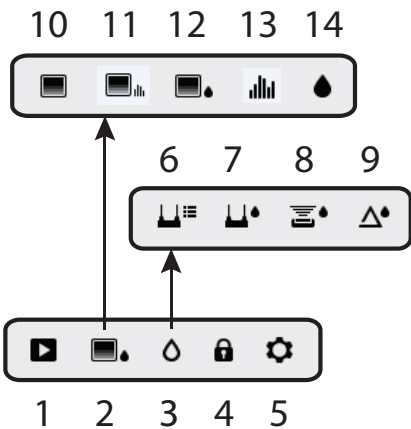

Fig. 4-2 Menu Icons
The Menu structure is outlined below and covered thoroughly in subsequent sections of this User Guide. The center Select button and the four (4) Navigation buttons are used to access and program the modes of operation available from the menus. Refer to Fig. 4-2.
Icons 1 through 5 in Fig. 4-2 make up the **Main Menu**. Press the Select button to open the Main Menu:
- 2. Image modes (items 10~14): IR, IGM Custom, IGM Moisture, Psychrometrics, Moisture
Icons 6 through 9 in Fig. 4-2 are available in the **Moisture Mode Menu**. Press icon 3 to view these Moisture modes. A blue dot is shown to the left of the pin icon (7) or the pinless icon (8), depending on which is selected.
Icons 10 through 14 in Fig. 4-2 are available in the **Image Mode Menu**. Press icon 2 to view the Image Mode menu.